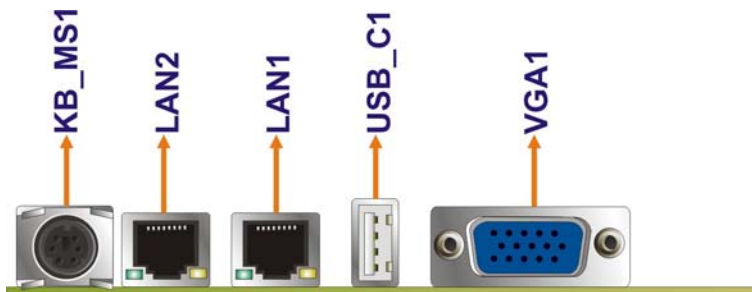

Figure 4-15: 3308460 External Peripheral Interface Connector
Figure 4-15 shows the 3308460 external peripheral interface connector (EPIC) panel.
CN Location:	See Figure 4-15
CN Location: See **Figure 4-15**
- CN Location:** See **Figure 4-15**